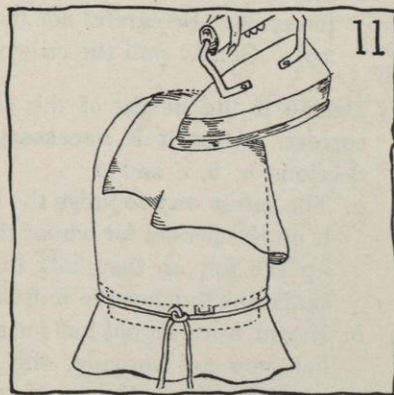

FIG. 11.
- a. Put a heavy unbleached muslin pressing cloth, slightly dampened, over the crown and press, using a continuous round-and-round motion of a hot iron (see Figure 11). Always lay the cloth smoothly over the part of the crown that you plan to press. Be careful not to press the felt over creases in the cloth.